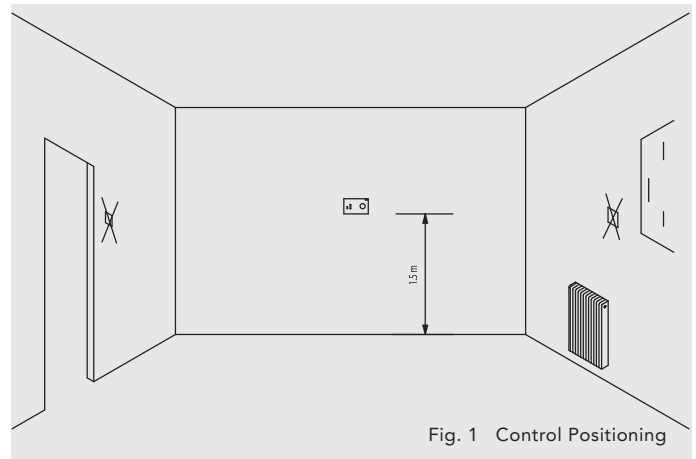

Fig. 1 Control Positioning
1. Locate a convenient wall space above the KICKSPACE® fan convector that will permit connection via the 5 metre cord supplied. The control should be mounted approximately 1.5 metres above floor level away from sources of moisture and heat. It must be situated away from draughts and not in areas affected by heat from radiators, ovens, windows etc. as shown in fig 1.